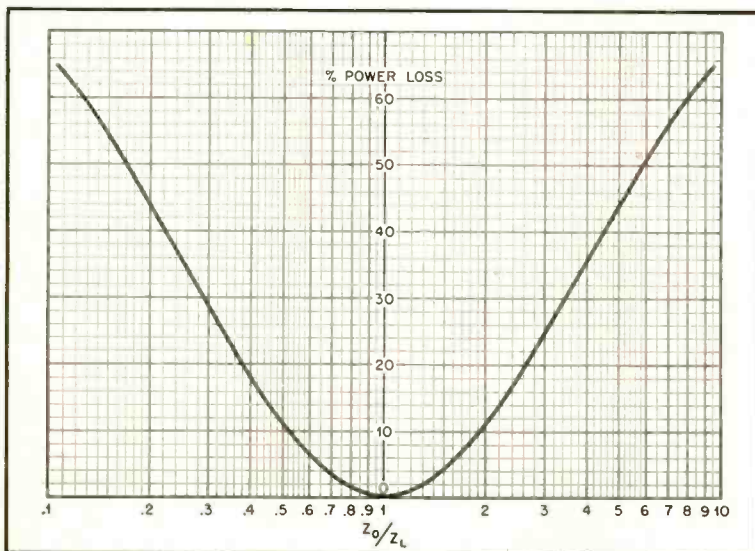

Fig. 1. Curve showing power loss due to impedance mismatch between circuits.
mismatching is shown in Fig. 1, where power loss is plotted in per cent against the ratio of optimum output impedance Z_o to actual load impedance Z_L . The following example illustrates an application of the graph. An amplifier is available with 8- and 16-ohm taps, and it is desired to determine which one to use to connect a 12-ohm voice coil. The 8-ohm connection gives a ratio of Z_o/Z_L of 8/12 or 0.667 and from Fig. 1 a loss of 4 per cent. The 16-ohm connection results in a ratio of 16/12 or 1.33 and a loss of only 2.5 per cent, indicating the more desirable connection. *
Judging from recent discussions with a number of ordinarily well-informed engineers, there is little general realization of the variation of gain of an ordinary amplifier with input level, and the need of instrument-quality amplifiers for the input and output elements of a logarithmic system. In Fig. 1 the gain variation of an ordinary single-stage amplifier has been compared with that of a section of an instrument amplifier (of equal gain) employing a large amount of negative feedback. In a complete amplifier system, the overall gain variation would be three to four times the value given for a single stage or section. It is desirable to use at least 20 db of negative feedback if a highly stable amplifier is to be produced or the accuracy of the logarithmic relation is not to be injured.
Fig. 1. Gain variation with output voltage for an ordinary single stage amplifier (A) and for an instrument amplifier of different design (B) using 20 db of negative feedback. Both amplifiers have same nominal gain.